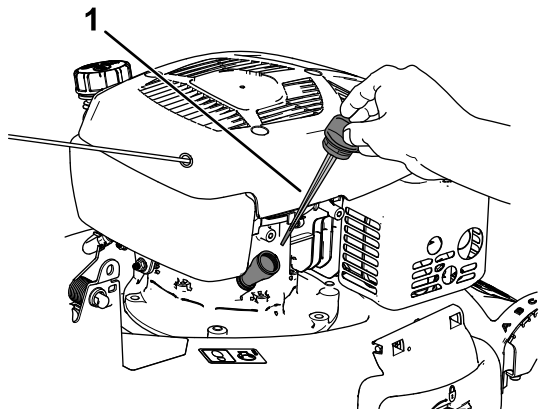

Figure 32
3. Remove the dipstick by rotating the cap counterclockwise and pulling it out (Figure 32).
4. Tip the machine onto its side (so that the air filter is up) to drain the used oil from the oil-fill tube (Figure 32).